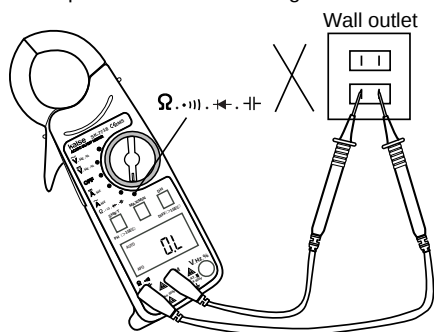

Fig. 6
•||| . + - . -|+ position. Refer to the Figure 6.